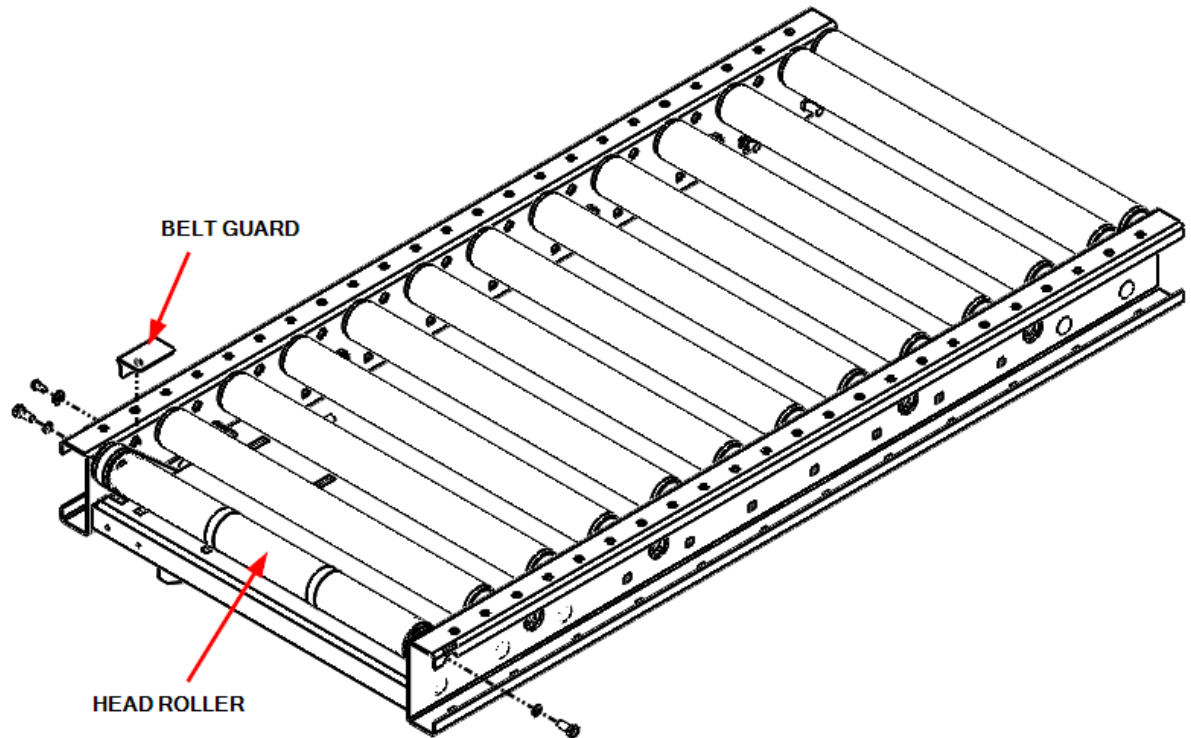

Figure 49: BRBDC Head Roller Installation (Belt Hidden)
10. Once the conveyor belt and drive belt tension has been relaxed, the head roller can be uninstalled by removing (2) bolts and bevel washers as shown in Figure 49.
13. Install the head roller using bolts and bevel washers as shown in Figure 49.
5. Once the conveyor belt and drive belt tension has been relaxed, the head roller can be uninstalled by removing (2) bolts and bevel washers as shown in Figure 49.
8. Re-install the head roller using (2) bolts and bevel washers as shown in Figure 49. Bolts only need to be finger tight until conveyor belt has been tensioned.
7. Uninstall the head roller by removing (2) bolts and bevel washers as shown in Figure 49.
10. Install the head roller using (2) bolts and bevel washers as shown in Figure 49.